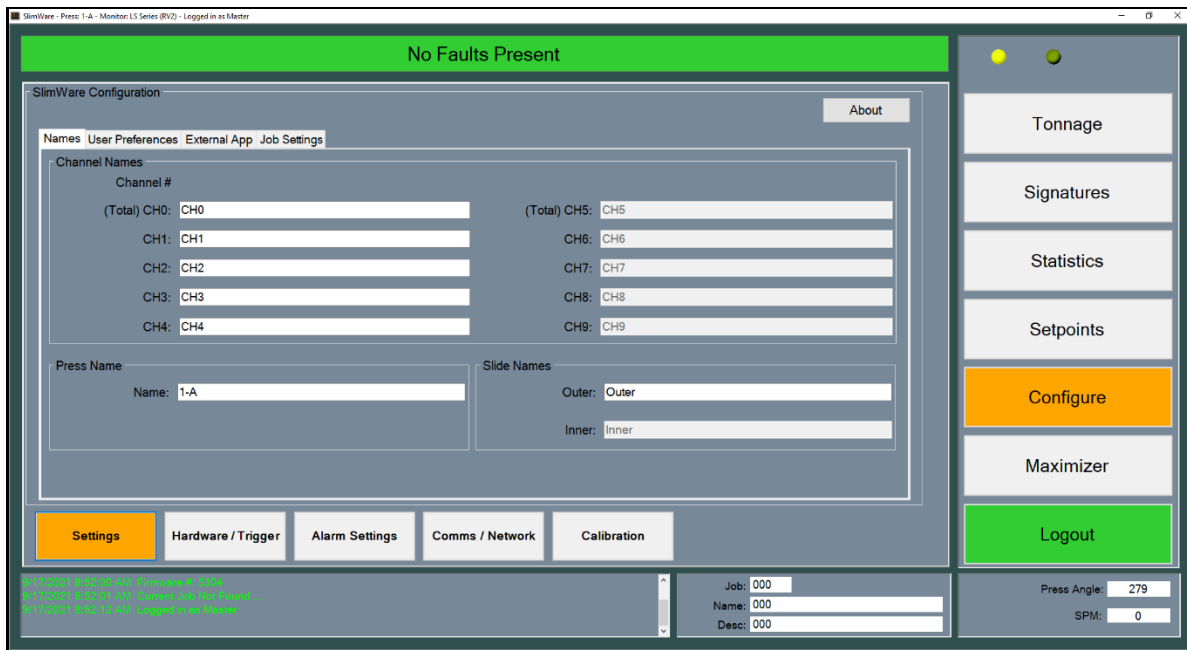

Figure 9-1 –Configuration Settings Screen
Figure 9-1 shows the initial configure page (settings). The Settings screen is split up into four different tabs (Names, User Preferences, External App, and Job Settings). Use the buttons near the bottom of the configuration window to navigate to the different configuration menus.
- **Channel Names** – Each channel can be configured for a specific name. Type in the desired name and press “Enter” to save the name to the desired corner. The default names are shown in figure 9-1.